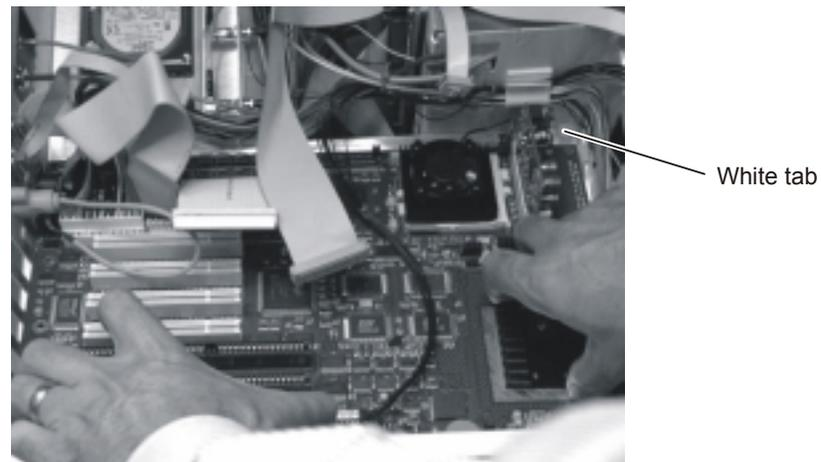
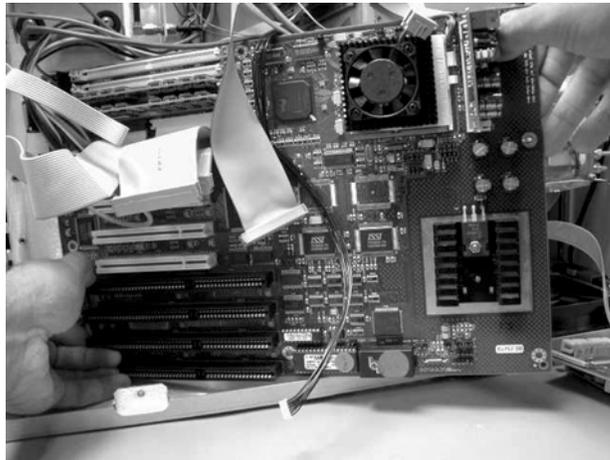

Figure 4-41. Slide the Motherboard Down to Clear the White Tab
Figure 4-42. Pull the Motherboard out the Right Side
- 7 Slide the bottom of the motherboard out to clear the white tab, as shown in Figure 4-41, then pull the motherboard out the right side, as shown in Figure 4-42.